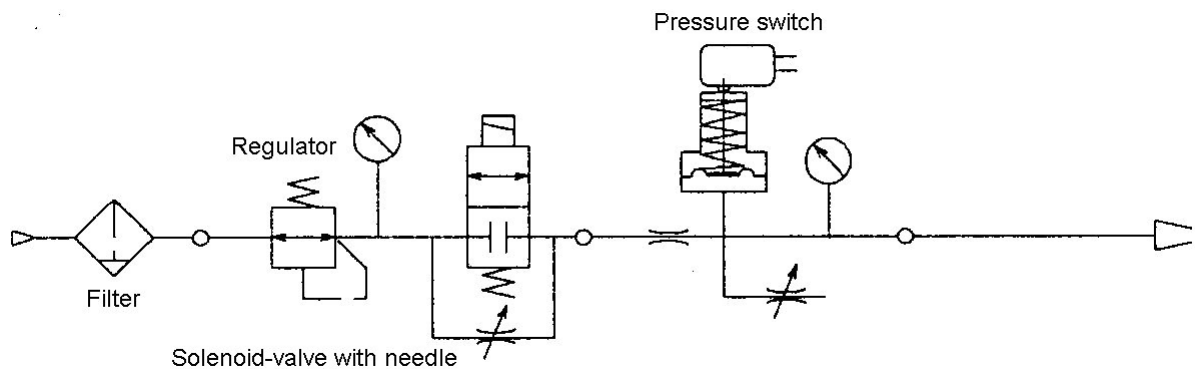
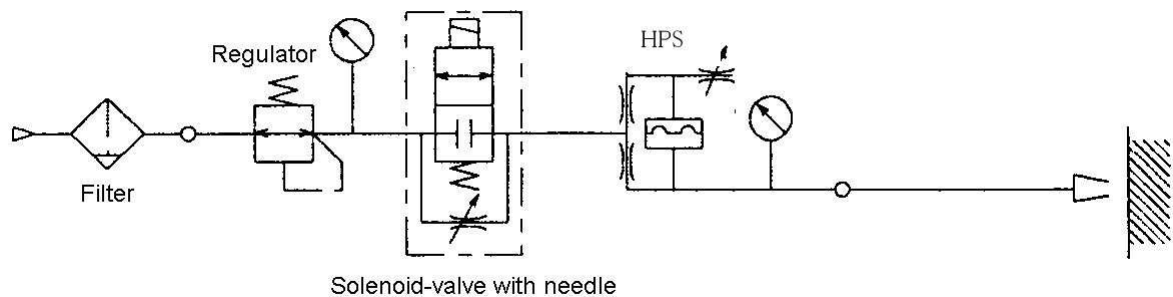

Figure 37 Pressure switch and Solenoid-valve with needle
Figure 38 Gap switch and Solenoid-valve with needle
- 10) The gap switch includes a pneumatic bridge circuit. Note the difference in the signal retrieval timing between a conventional pressure switch circuit (Fig. 37) and the circuit we recommend for the gap switch.
- With the circuit given in Fig. 37, the closing of the solenoid valve turns OFF the pressure switch, regardless of the presence of a workpiece.
- With the circuit given in Fig. 38, the presence of a workpiece turns ON the gap switch through the action of the minute flow of air.
- If the circuit for a conventional pressure switch (Fig. 37) includes a control circuit that detects an air sensor abnormality, the OFF checking is performed when the solenoid valve is turned OFF. With the basic circuit for the gap switch (Fig. 38), however, the OFF checking should be performed when a workpiece comes off while the solenoid valve is ON. If the control circuit cannot be modified, the minute flow of air should be completely cut off. This, however, will produce a delay of about one second in the switching from ON to OFF.